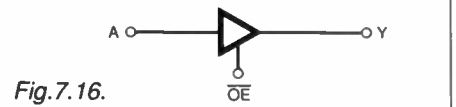

Fig.7.16.
It is worth considering how this is achieved. Fig.7.16 shows the circuit within the latch itself, with the output enable (OE) signal being used to cause the buffer to pass the signal at A onto the output Y.